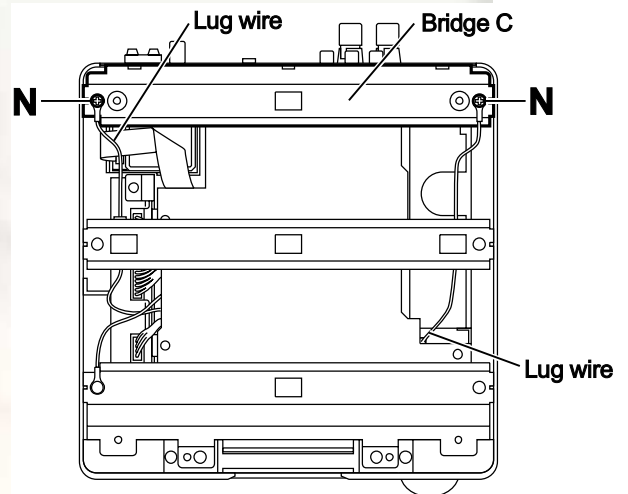

Fig.11
3.1.6 Removing the tuner (See Figs.11 and 12)
- From the top side of the main body, remove the two screws **N** attaching the bridge C. (See Fig.11.)
When attaching the screws **N**, attach the lug wires with them. (See Fig.11.)